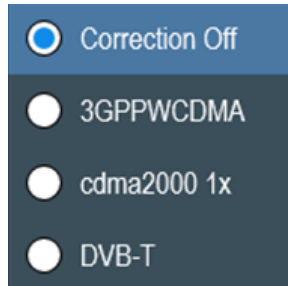

Figure 10-2: Channel bandwidth setting for model .02
2. For model .02, select the "Standard" softkey. The R&S Cable Rider ZPH opens a submenu to select the channel bandwidth. See Figure 10-2.